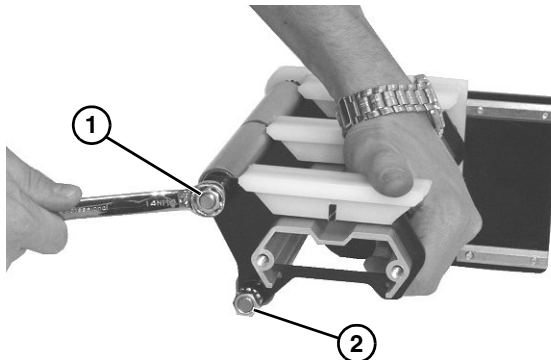

Figure 49
5. Remove upper nut (**Figure 49, item 1**) and spacer from end of axle shaft assembly.
6. Remove lower nut (**Figure 49, item 2**) and spacer from lower axle shaft assembly.